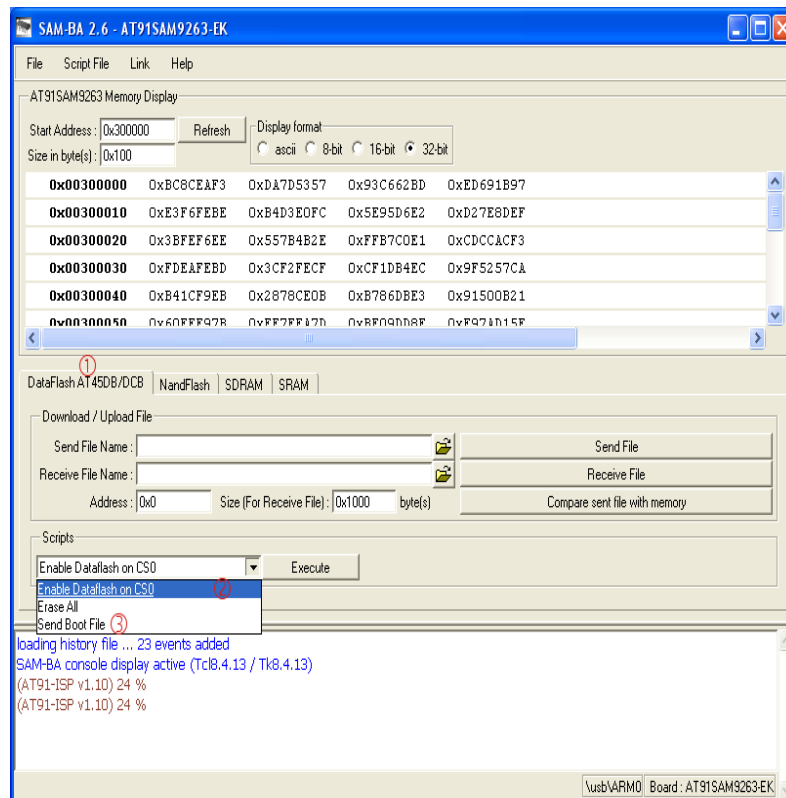

Figure 4. Main SAM-BA Window
- In the main SAM-BA window (Figure 4)